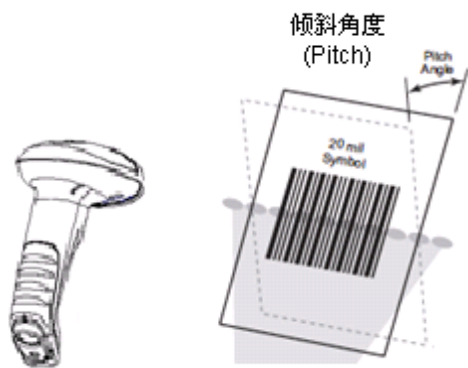

Fig. 1-14
- ◇ Pitch : $\pm 55^\circ$, 0° Roll and 0° Skew (Fig. 1-14)